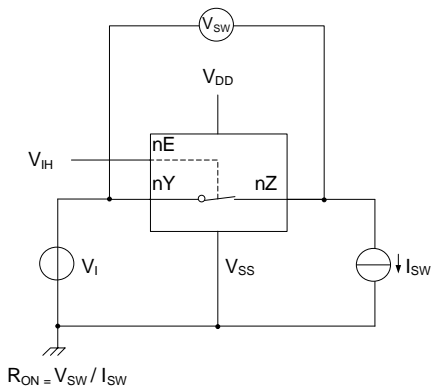
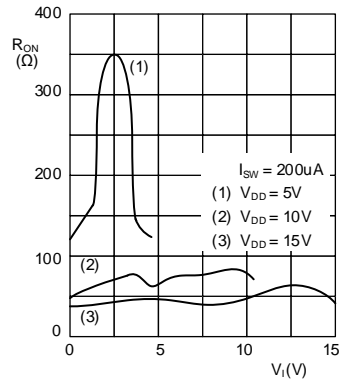

Figure 8-9 Test circuit for measuring R_{ON}
Figure 8-10 Typical R_{ON} as a function of input voltage
(1) On resistance waveform and test circuit see Figure 8-9 and Figure 8-10.